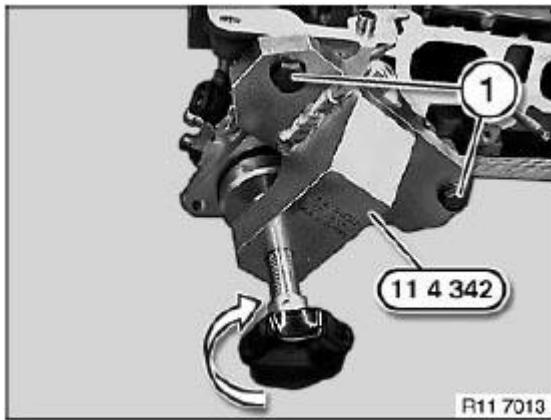

Fig. 59: Inserting Knurled Screw
Fit special tool 11 4 342 with bolts (1), insert knurled screw in direction of arrow. See **Fig. 59**.